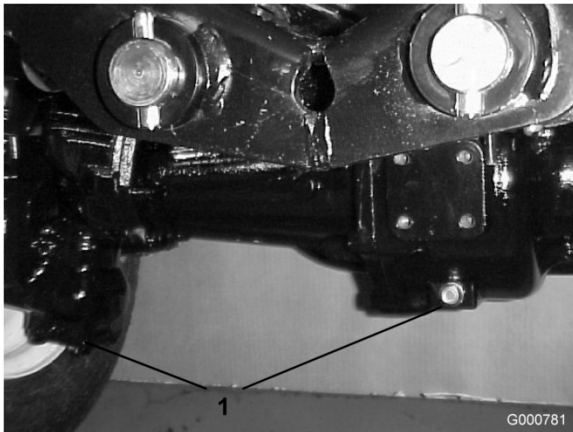

Figure 57
2. Clean the area around the 3 drain plugs, 1 on each end and 1 in the center (Figure 57).